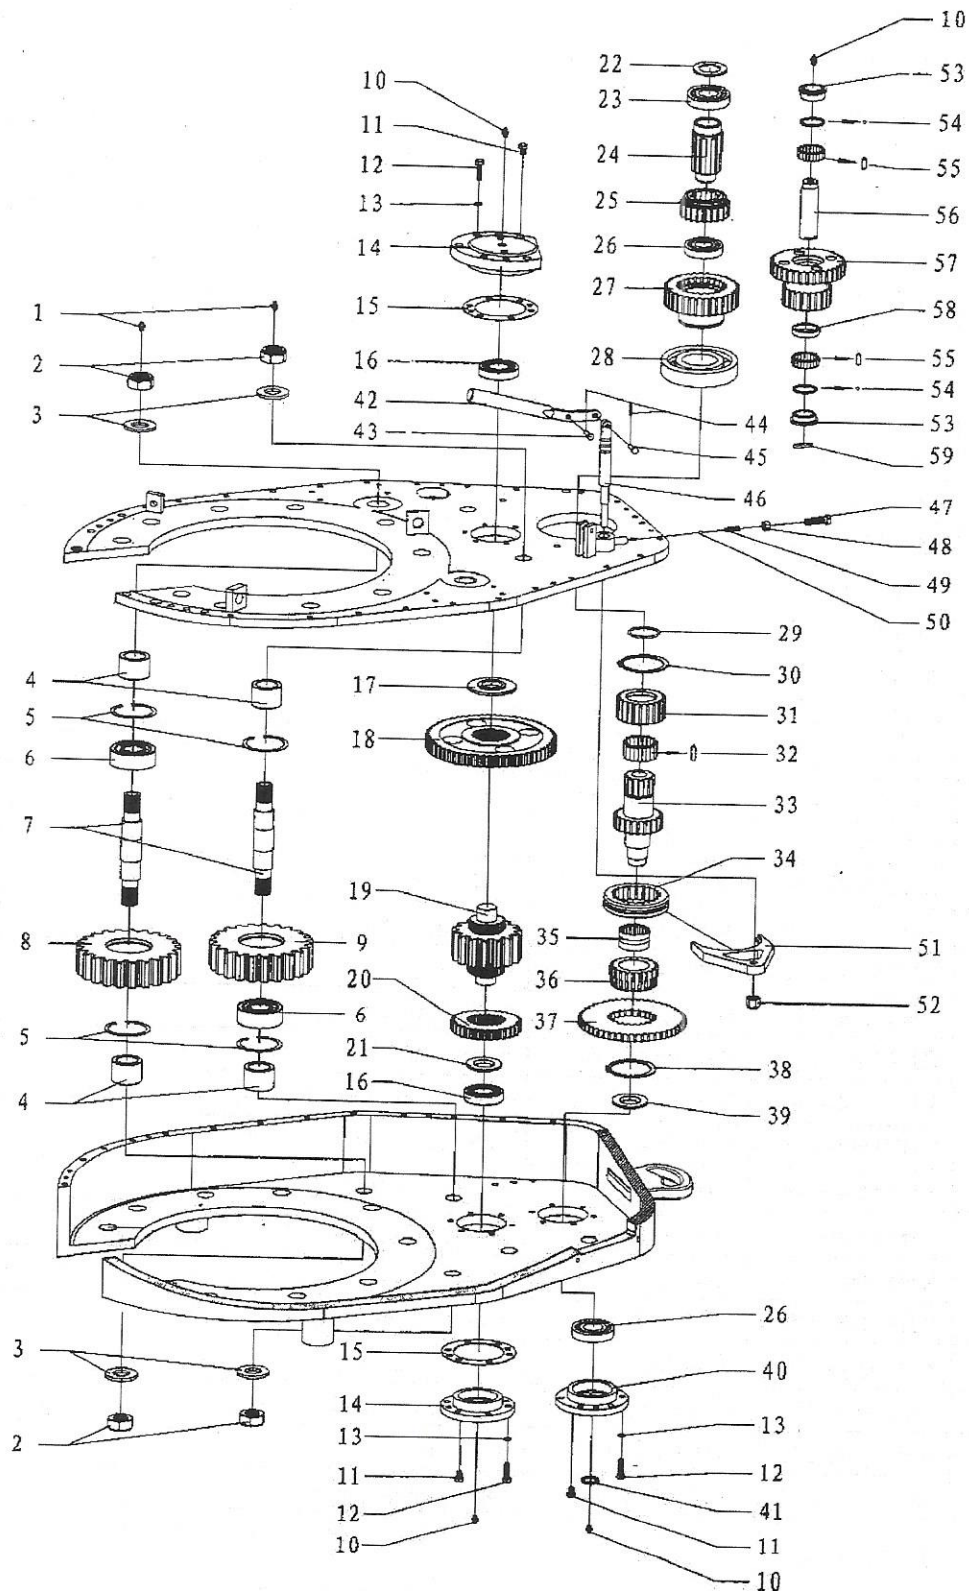

Fig. 9
6. Drive gear of master tong (Fig 9, Table 6)